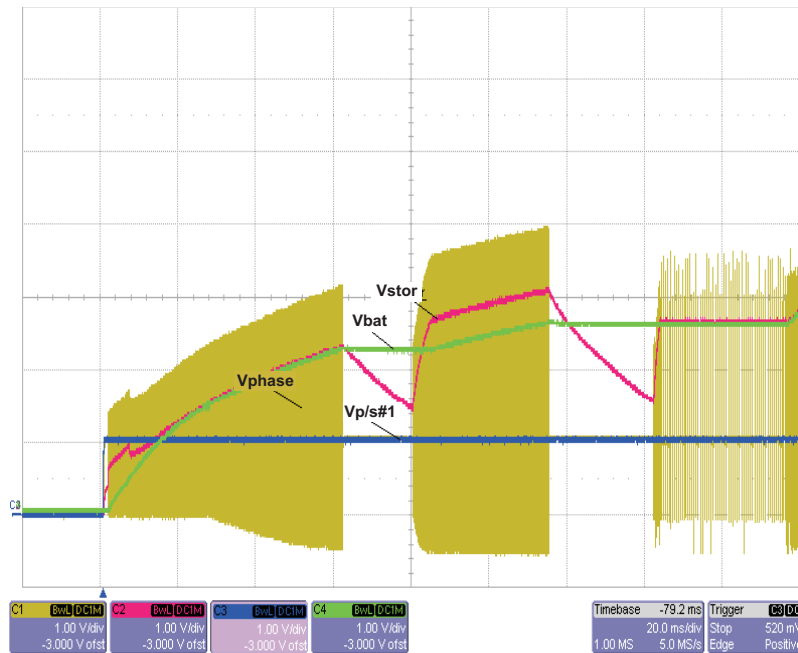

Figure 2. Startup with no Battery and 10k Load
1. Connect a 20Ω resistor to J1-1, 10k resistor between J6-1 and J6-3 and place shunt on JP1-DIV. Connect meters and scope probes to monitor CH1→CH4: V_{PHASE} (TP16), V_{STOR} , $V_{\text{P/S \#1}}$, V_{BAT} . Set scope to 1V per division for each channel and 20ms/div, single sequence trigger on $V_{\text{P/S\#1}}$, see Figure 2.